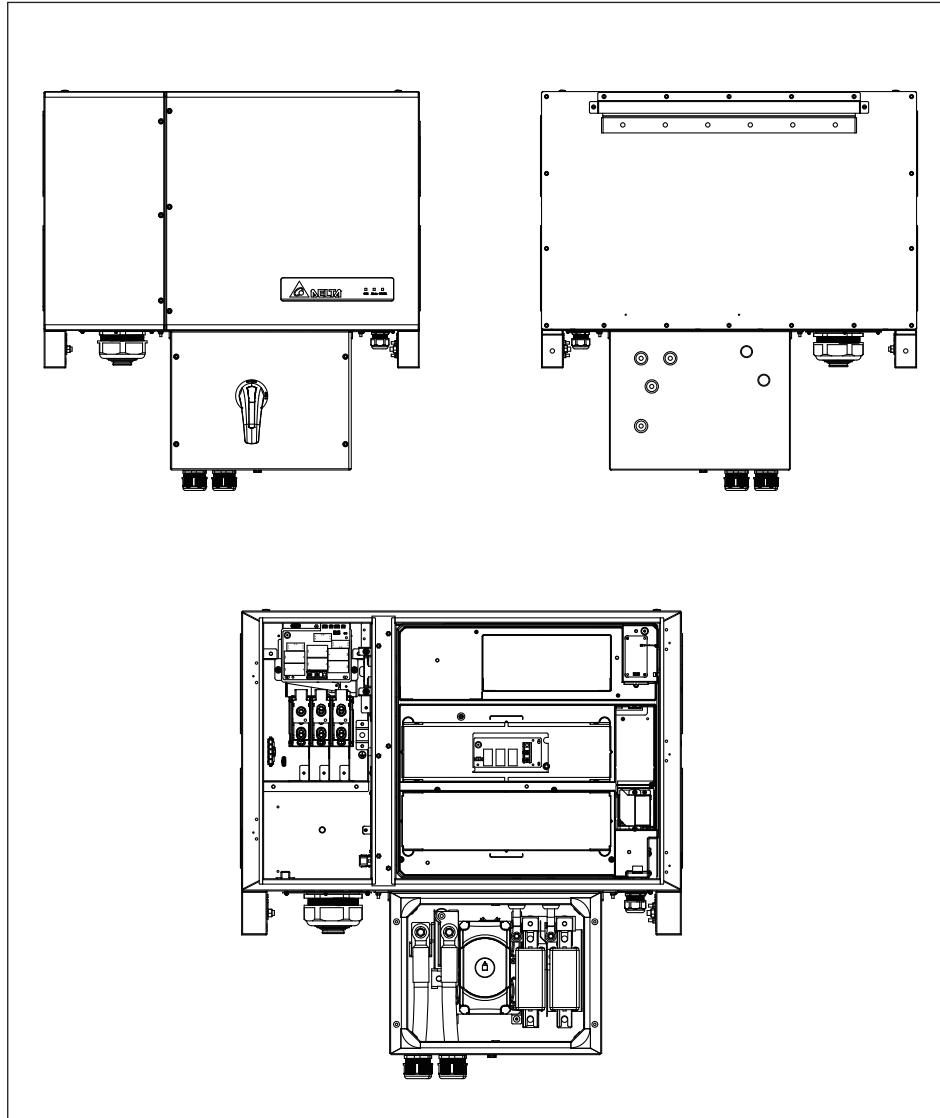

**Figure 2-4: Rating label**
**Figure 2-4** shows the rating label of M125HV\_113, and **Table 2-3**, defines the symbol markings on this label.